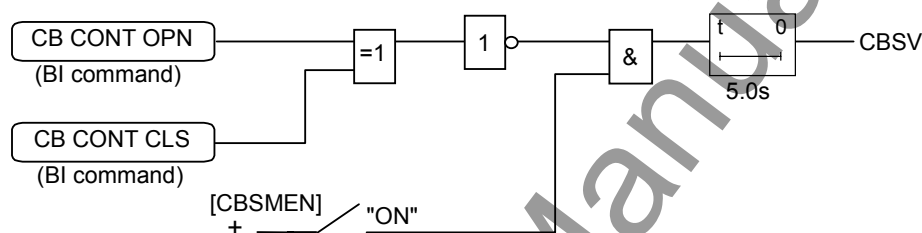

Figure 3.3.4 CB State Monitoring Scheme Logic
Circuit breaker state monitoring is provided for checking the health of circuit breaker (CB). If two binary inputs are programmed to the functions ‘CB OPEN’ and ‘CB CLOSED’, then the CB state monitoring function becomes active. In normal circumstances these inputs are in opposite states. Figure 3.3.4 shows the scheme logic. If both show the same state during five seconds, then a CB state alarm CBSV operates and “Err:CB” and “CB err” are displayed in LCD message and event record message respectively.